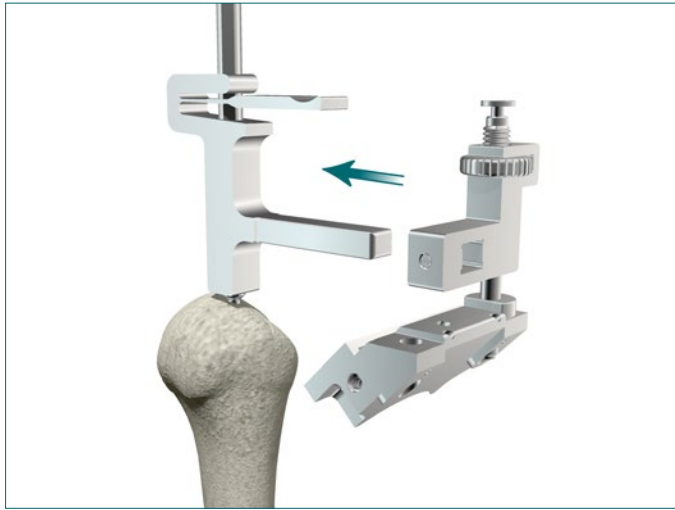

Figure 10
- ▶ Slide the IM Resection Guide and Superior Resection Block assembly onto the Clamp Tower [Figure 10].